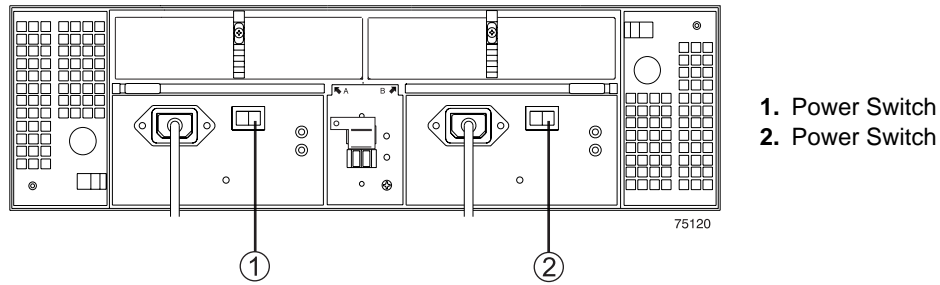

Figure 2-2 Power Switches
- 6 Turn on both power switches on the back of the array module (Figure 2-2 on page 2-4).